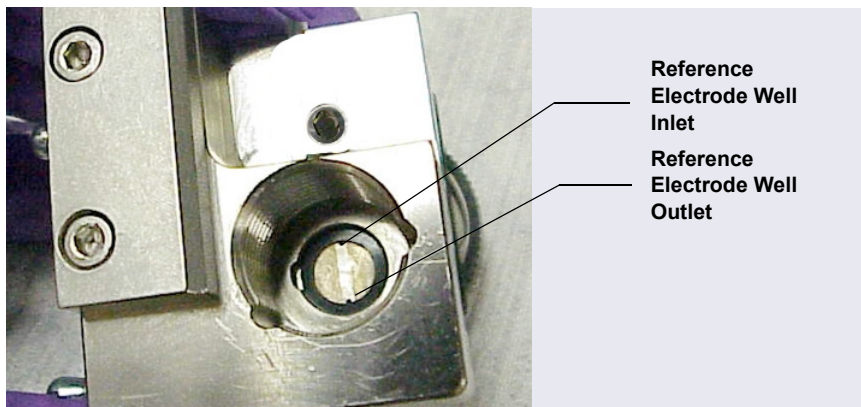

Figure 10-66. Reference Electrode Well with Reference Electrode Gasket for Capillary IC Installed
3. Make sure the gasket is centered in the bottom of the well, and that it does not block the inlet and outlet of the well. The inlet and outlet are small round openings in the bottom of the well (see Figure 10-66).